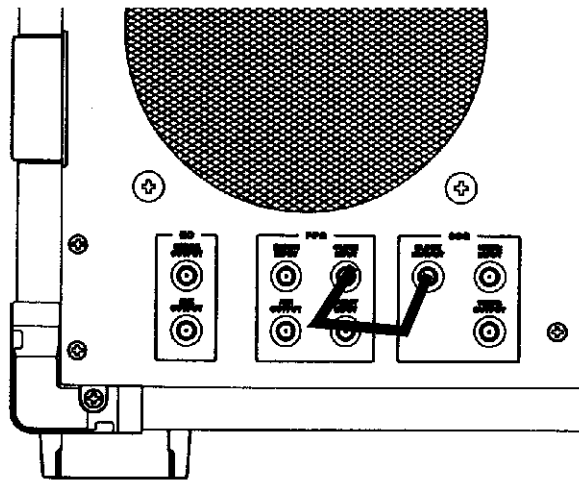

Figure 1-10 Connecting the Built-in SSG Module
2. Connect the coaxial cable attached to the SSG as shown in Figure 1-10.